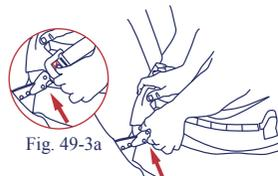

Fig. 49-3a
15.3.7) To remove the base from the vehicle, squeeze the webbing release button on the LATCH connector to loosen the webbing. See figure 49-3a. Please note that the LATCH connector can not be released from the LATCH anchor if the webbing is tight. Press the LATCH hook release button on each connector to release the connector from the anchor. See figure 49-3b.